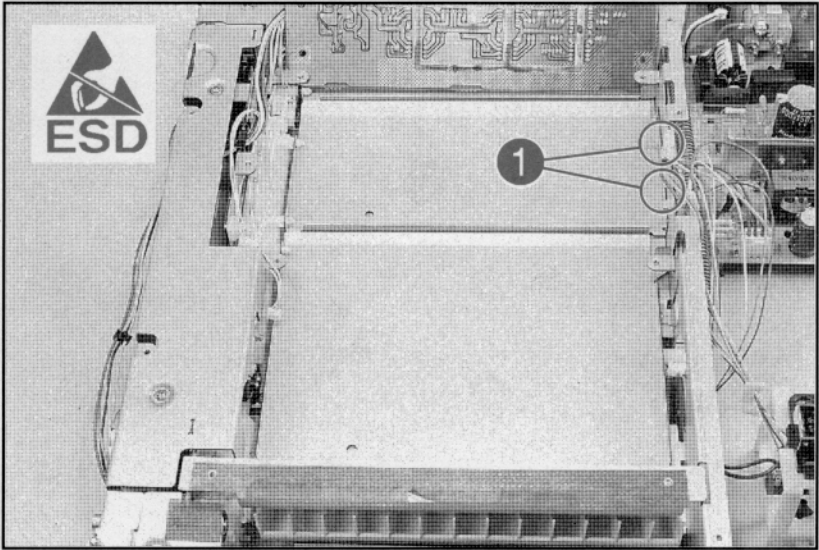

Figure A-19 Plate on Power PCA Side of Duplexer
- 2 Remove the (2) screws from the plate located on the power PCA side of the duplexer (see Figure A-19, callout 1).